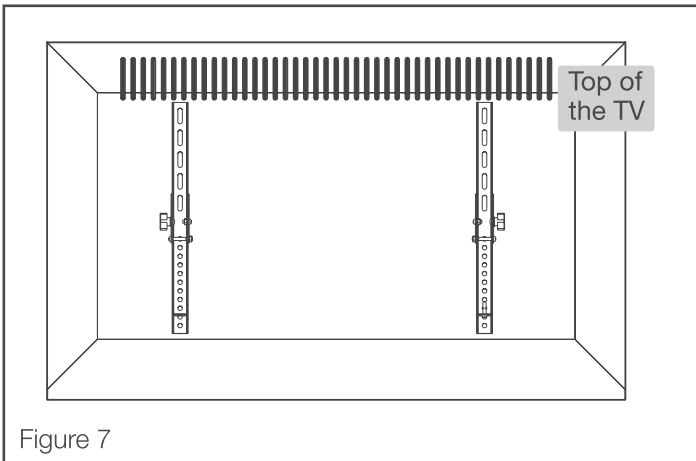

Figure 7
- Using the correct mounting bolt size and length, insert these through the corresponding washers (F) to attach the mounting arms to the rear of the TV (see Figure 7 and 8). To avoid damaging TV, do not over tighten bolts.